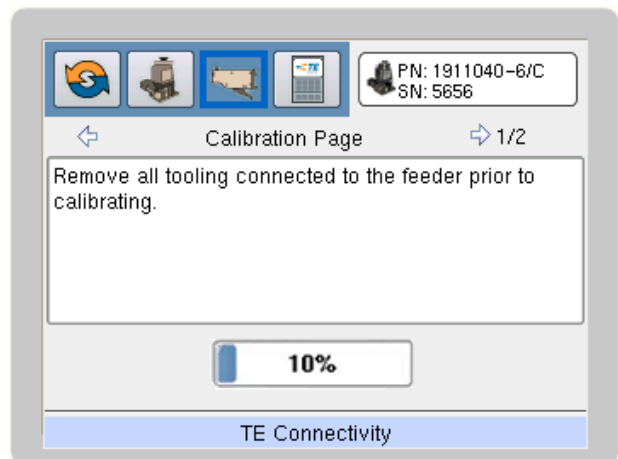

Figure 36
3. Use the Down navigation key to move to the Calibrate pushbutton. See Figure 36.
4. Press the Enter key to begin the calibration. A progress bar at the bottom of the menu will appear to indicate this process has begun. See Figure 36.